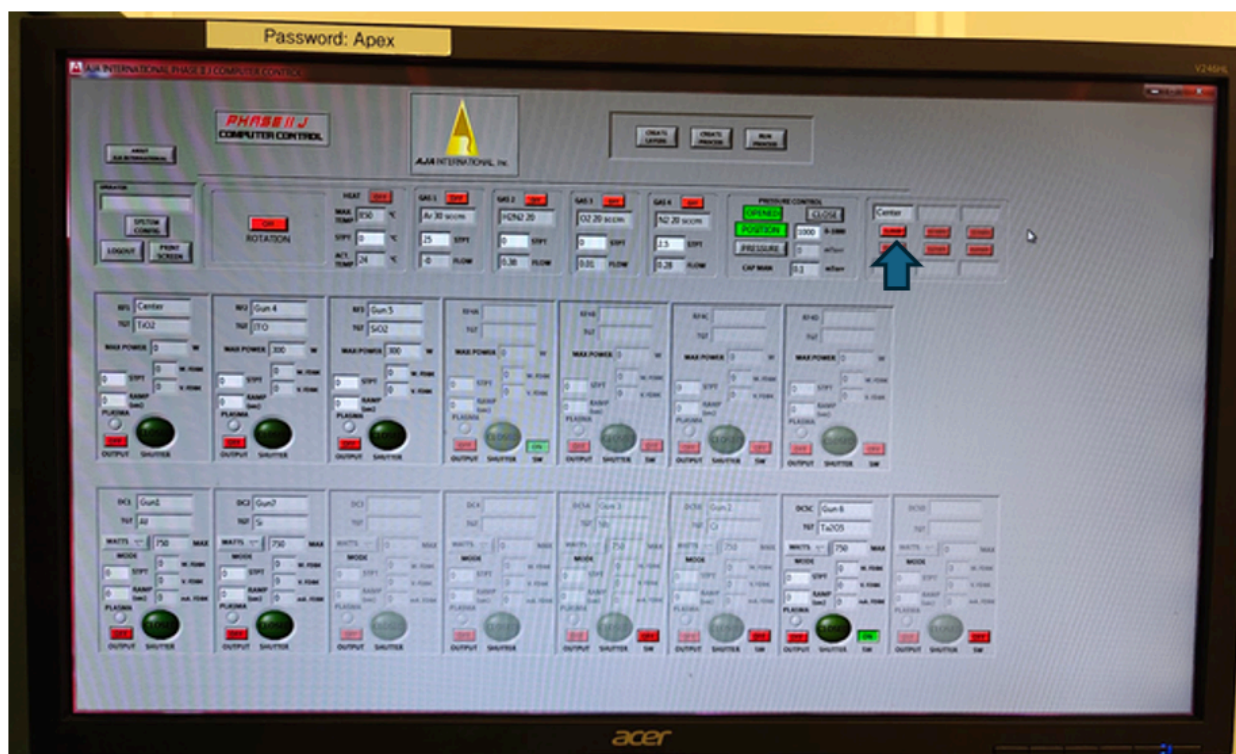

Figure 1: Blue arrow shows the location to open/close the center gun shutter.
- A. To open the center target shutter, go to the top left corner. There is a section with one of the boxes labeled "Center". Underneath it, click that button to open the shutter. Refer to figure 1 below.